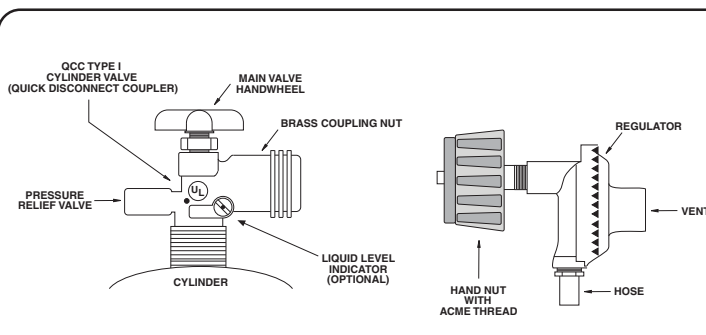

Figure 3A Type I Acme Thread Quick Coupler
- The pressure regulator and hose assembly (Figure 3A,) supplied with this outdoor cooking gas appliance must be used. Original and replacement pressure regulator and hose assemblies must be those specified by the Robert H. Peterson Co. for connection with a cylinder connecting device identified as Type I by the Harmonized Standard ANSI Z 21.58 and CGA 1.6-M95-1995 with Addenda ANSI Z 21.58a -1998 and CGA 1.6a - M98.
**To disconnect:-** Turn the Hand Nut counter-clockwise until detached. (Figure 3a).